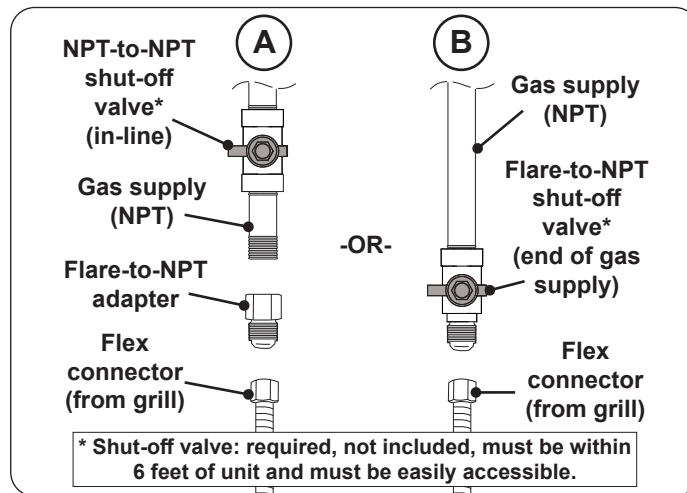

Fig. 25-2 Connecting to a gas line
- Install the supplied flare-to-NPT adapter to the gas supply (NPT) using a pipe joint compound resistant to all gasses (see Fig. 25-2, A). Tighten securely.
- Connect the flex connector to the adapter (see Fig. 25-2, A). Tighten securely.
- Connect the flex connector to the shut-off valve (flare) (see Fig. 25-2, B). Tighten securely.